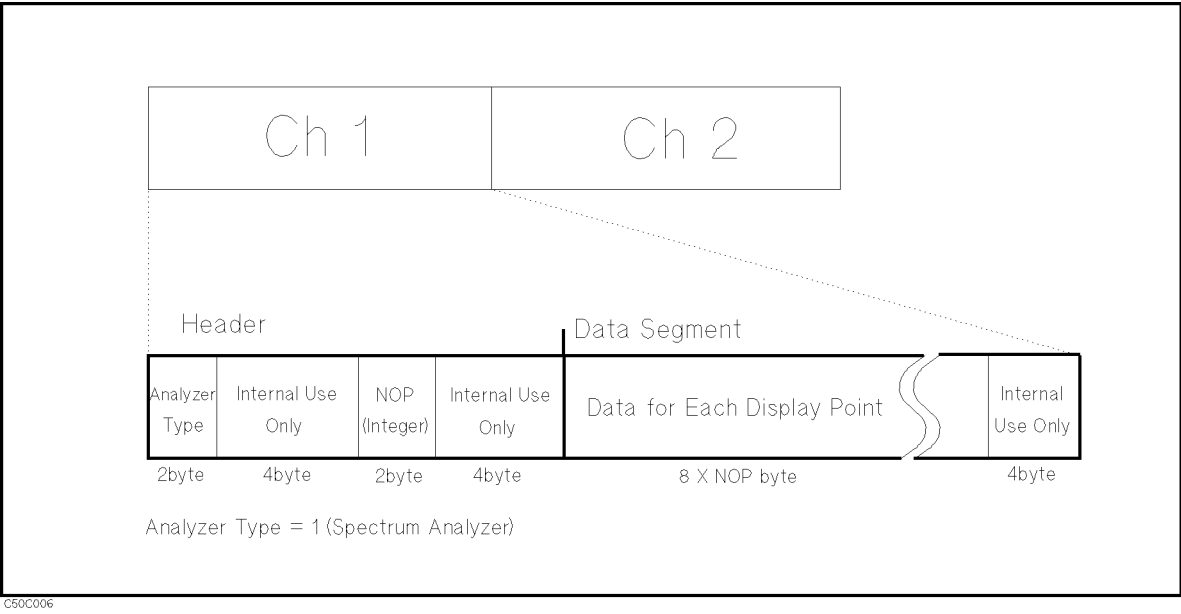

Figure A-43. RAW Data Group Structure for the Spectrum Analyzer
- **RAW DATA** of the spectrum analyzer consists of a header and a data segment by a channel as shown in Figure A-43. They will follow the file header in this order: